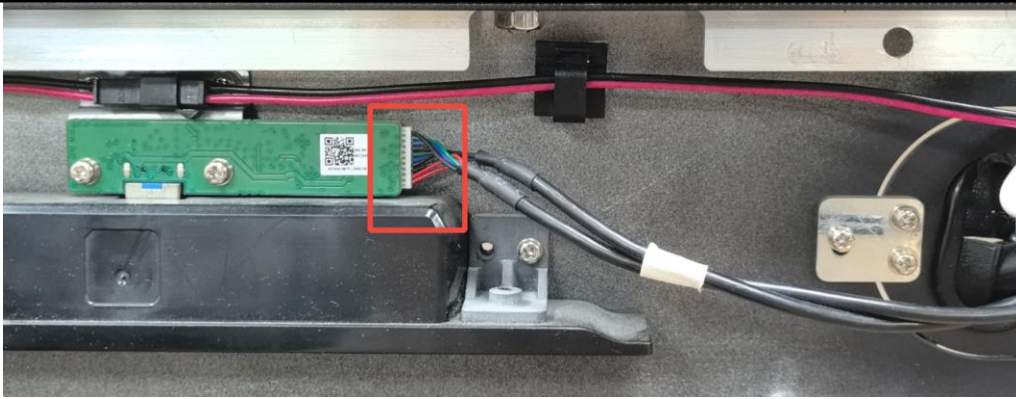

Figure 24
2) Connect the main board and the WiFi module as shown in the figure 24, The electronic wire harness on the main board is connected when shipped (see Figure 25)